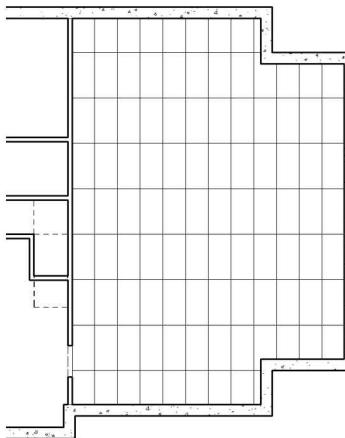

FIGURE 9-2.7
15. Use the **Move** tool to move the grid 24" to the North (Figure 9-2.7).